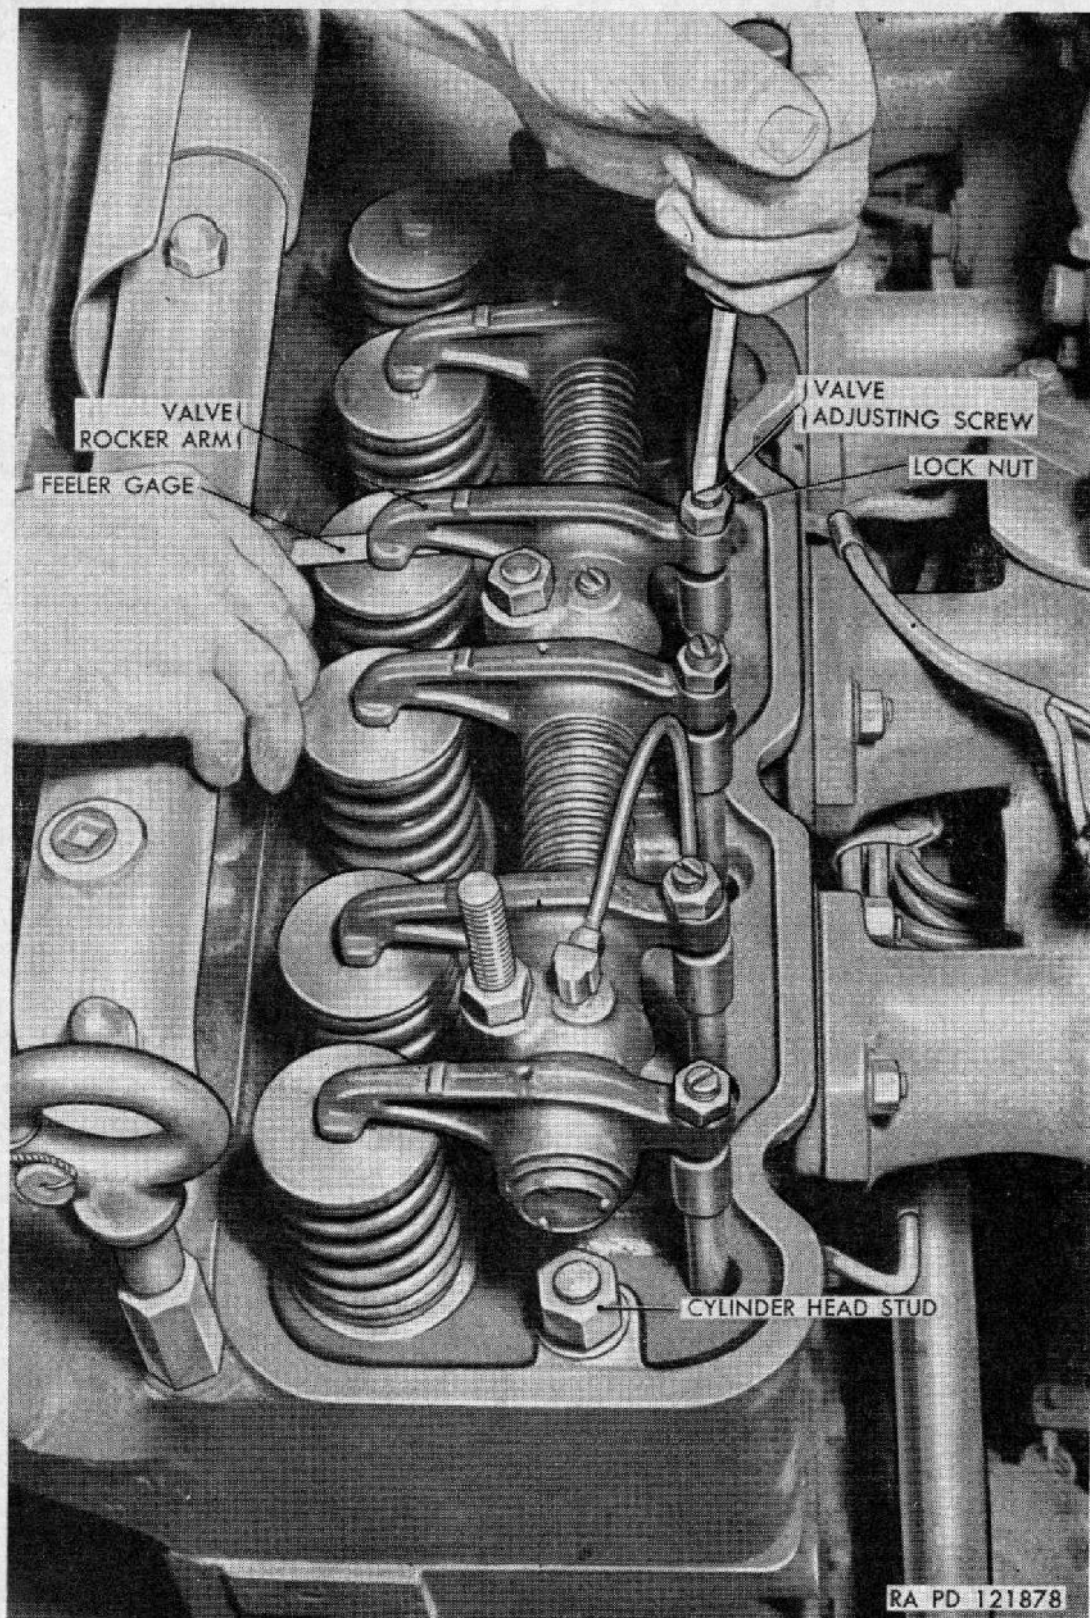

Figure 30. Engine valve adjustment.
- (2) *Remove rocker arm covers.* Remove handwheel nuts, and lift rocker arm covers and gaskets from engine cylinder heads.
- (3) *Adjust valves on No. 1 (rear) cylinder (fig. 30).* Check clearance between rocker arms and ends of valve stems on both intake and exhaust valves with a feeler gage. Intake valve should have 0.016-inch clearance, and exhaust valve should have 0.022-inch clearance at this point with engine cold. Adjustment for this clearance is made by loosening lock nuts on adjusting screws in rocker arms and turning screws in (clockwise) with screw driver to decrease the clearance or out (counterclockwise) to increase the clearance. Check again with feeler gage after screws are adjusted and lock nuts tightened. There must be a slight drag on 0.016-inch and 0.022-inch feeler gages inserted after lock nuts are tightened. Adjust valves for each remaining cylinder by turning the engine each time to close valves on that cylinder, as explained in (1) above, and using same adjustment procedure.
- (4) *Install rocker arm covers and distributor cap.* Position new gaskets on cylinder head and install rocker arm covers with handwheel nuts. Tighten handwheel nuts firmly. Replace distributor cap in its proper position on distributor. Start engines (par. 45) to see that it operates satisfactorily. Inspect for oil and water leaks.